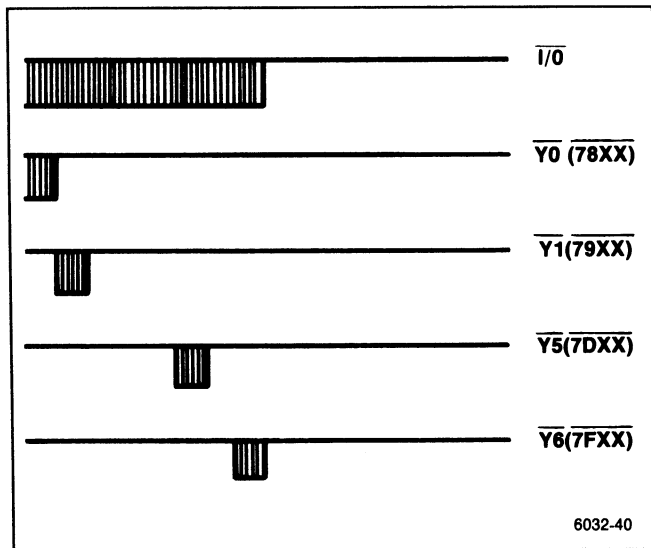

Figure 6-31. Chip selects Y0, Y1, Y5, and Y7 in relation to  $\overline{T/O}$ .
**Processor Address Decoder** — Address decoder U3035 on the Processor board decodes several chip-selects. Y0, Y1, Y5, and Y7 are shown in relation to the  $\overline{T/O}$  line in Figure 6-31.